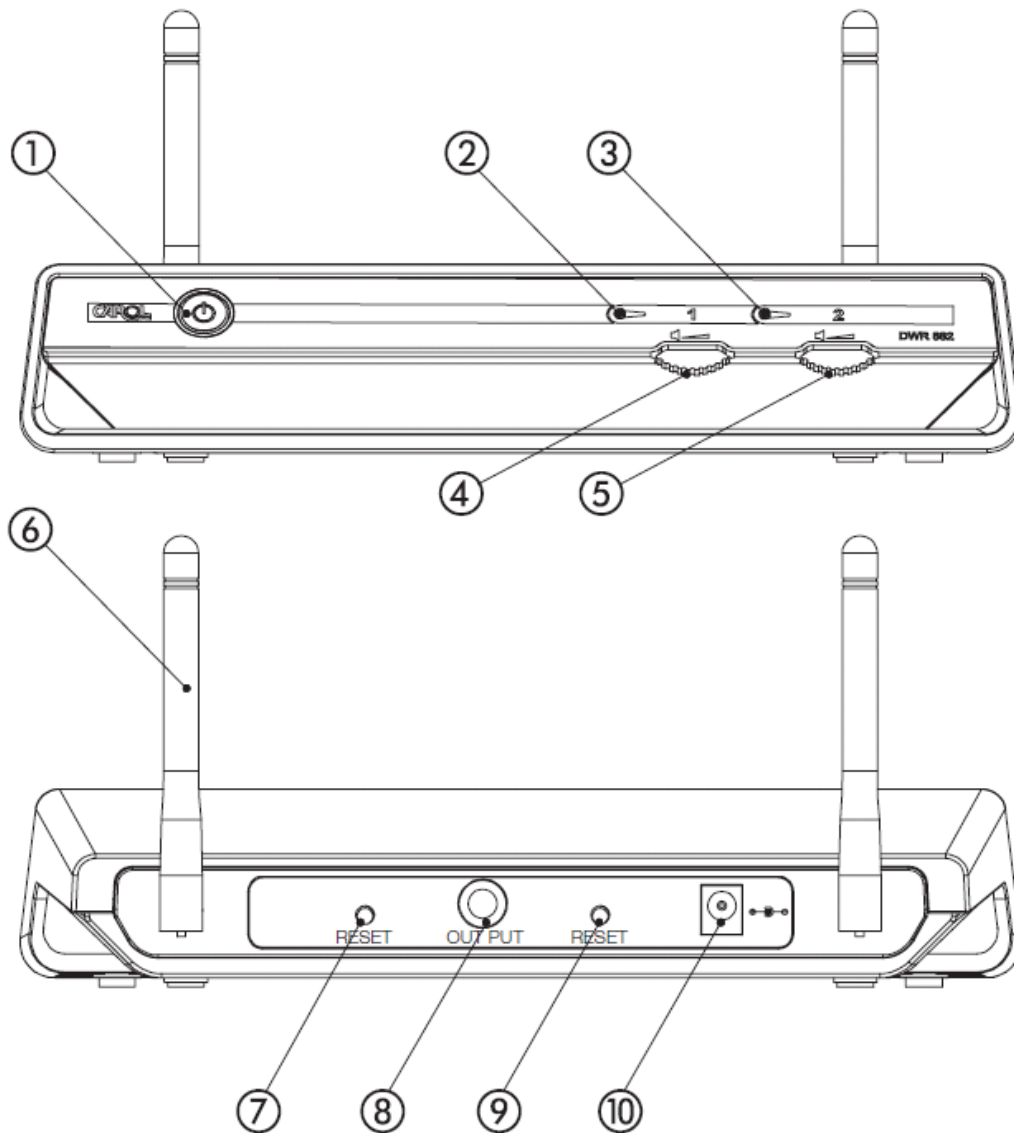

Figure 2.1
2.1 DWR-882 Digital Wireless Receiver (as shown in figure 2.1)